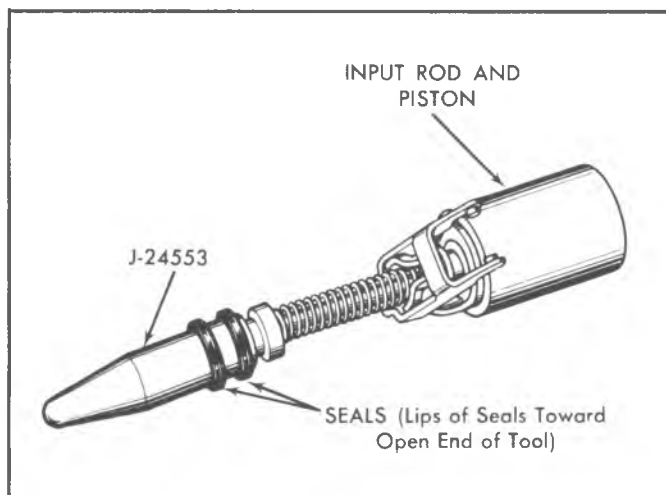

Fig. 8--Installing Input Rod Seals
4. Lubricate the input rod end, **NEW** input rod seals and Seal Installer Tool J-24553 with clean power steering fluid. Slide the seals on the tool with the lip of the cups toward the open end of the tool (fig. 8).